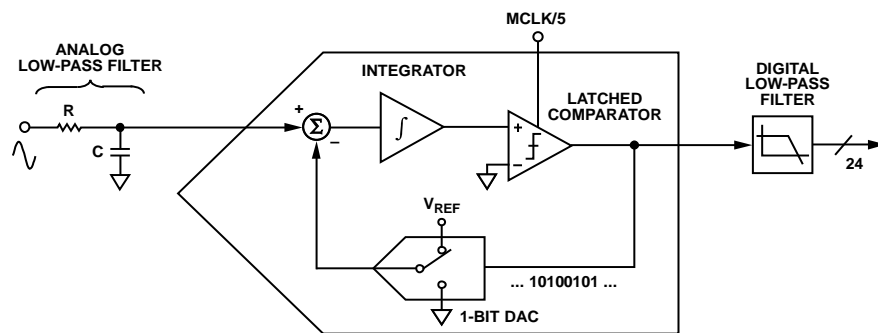
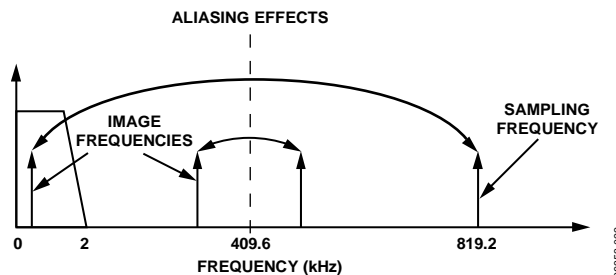

Figure 44. First Order Σ - Δ ADC
Figure 45. ADC and Signal Processing in Current Channel Outline Dimensions
For simplicity, the block diagram in Figure 44 shows a first-order Σ - Δ ADC. The converter is made up of the Σ - Δ modulator and the digital low-pass filter (LPF).
Figure 44 also shows an analog LPF (RC) on the input to the modulator. This filter is present to prevent aliasing, an artifact of all sampled systems. Aliasing means that frequency components in the input signal to the ADC that are higher than half the sampling rate of the ADC appear in the sampled signal at a frequency below half the sampling rate. Figure 45 illustrates the effect. Frequency components (the black arrows) above half the sampling frequency (also known as the Nyquist frequency, that is, 409.6 kHz) are imaged or folded back down below 409.6 kHz. This happens with all ADCs, regardless of the architecture. In the example shown, only frequencies near the sampling frequency (819.2 kHz) move into the band of interest for metering (40 Hz to 2 kHz). This allows the use of a very simple LPF (low-pass filter) to attenuate high frequency (at approximately 819.2 kHz) noise and prevents distortion in the band of interest.
For conventional current sensors, a simple RC filter (single-pole LPF) with a corner frequency of 10 kHz produces an attenuation of approximately 40 dB at 819.2 kHz (see Figure 45). The 20 dB per decade attenuation is usually sufficient to eliminate the effects of aliasing for conventional current sensors. However, for a di/dt sensor such as a Rogowski coil, the sensor has a 20 dB per decade gain. This neutralizes the -20 dB per decade attenuation produced by one simple LPF. Therefore, when using a di/dt sensor, care should be taken to offset the 20 dB per decade gain. One simple approach is to cascade two RC filters to produce the -40 dB per decade attenuation needed.